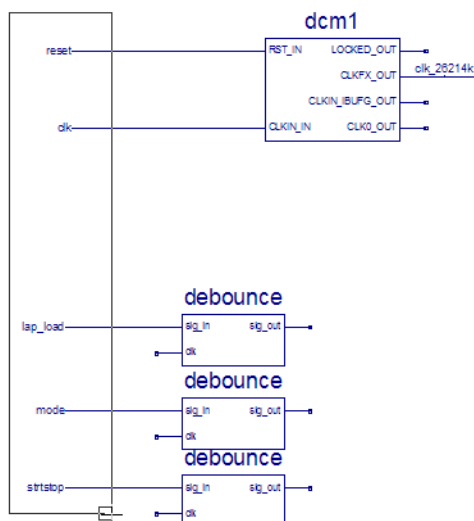

Figure 4-29: Adding I/O Markers to Labeled Nets
3. Place the name on the leftmost end of the net, as shown in Figure 4-29.